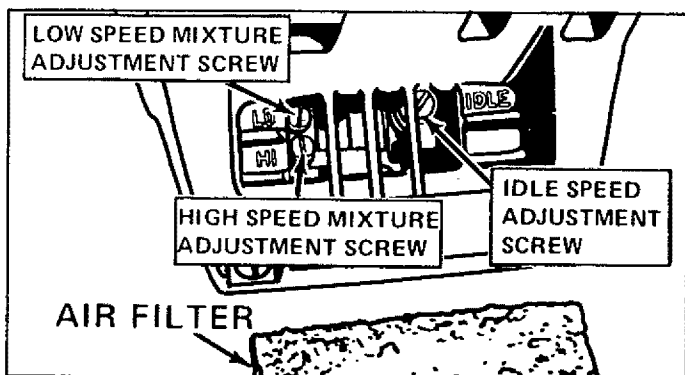

Figure 10
- 3.) Remove air filter (Figure 10) and place under spark plug wire for safe keeping.
- 4.) Turn both low speed and high speed mixture screws clockwise  until fully closed, but do not overtighten. Figure 10. Unscrew both mixture screws one full turn counterclockwise